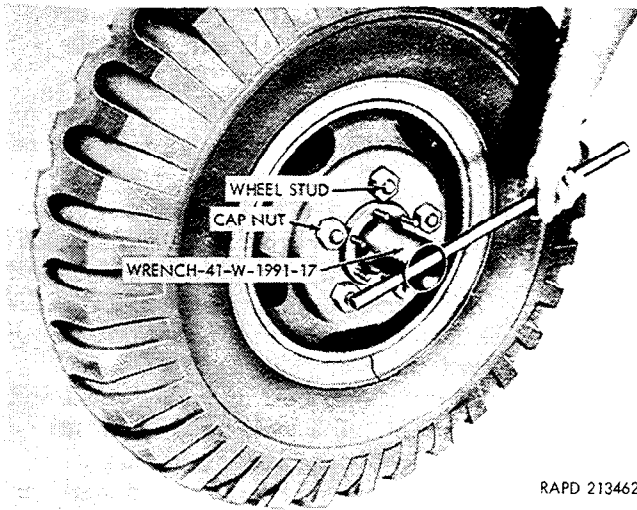
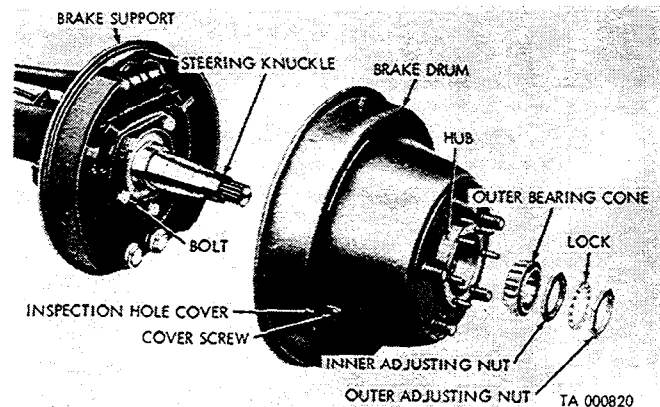

Figure 2-135. Adjusting wheel bearings.
Figure 2-137. Front wheel hub and drum and related parts—exploded view.
(1) Remove the hub bearing outer adjusting nut, using the wrench (fig. 2-135).
(3) Remove the hub bearing inner adjusting nut, using the wrench (fig. 2-135).
(4) Pull the hub and brake drum part way off the steering knuckle to free the outer bearing cone, remove the cone, the hub, and brake drum (fig. 2-137).
(2) Remove the five bolts and lockwashers that secure the brake support and steering knuckle to the steering knuckle flange. Remove the brake support (fig. 2-137).
(1) Apply a coating of automotive and artillery lubricating grease to the parts and inside the bearing flange.
(2) Fit the male half of the universal drive joint on the inner shaft and insert the shaft into the axle housing, engaging the splined end of the shaft in the differential gear.
(3) Fit the female half of the universal drive joint on the outer shaft and insert the shaft through the steering knuckle. Engage the female half of the universal drive joint with the male half, and position the steering knuckle on the knuckle flange (flat side up), aligning the bolt holes. Tap the steering knuckle into place with a plastic hammer.
(4) Position the brake support over the steering knuckle (fig. 2-137), aligning the bolt holes in the support with those in the knuckle and flange. Install five lockwashers and bolts. Tighten the bolts to 80-85 foot-pounds torque.
(5) Clean the contacting surfaces of the brake line inlet connection and the wheel cylinder, and position the connection on the cylinder. Install the bolt gasket and the bolt. Tighten the bolt.
b. *Install Hub and Drum (Fig. 2-137).*
(1) Apply a light film of grease to the inside of the hub and the steering knuckle to prevent rust.
(2) Install the assembled hub and brake drum on the steering knuckle.
(3) Lubricate the outer bearing cone with automotive and artillery grease, using a roller bearing lubricator or kneading the grease into the bearing with the fingers. Do not over-lubricate. Install the cone on the steering knuckle, and install the inner bearing adjusting nut with the lock pin toward the outside. Screw the nut on the steering knuckle, using the wrench (fig. 2-135), but do not tighten.
(4) Install the wheel and tire (para 2-142b).
(5) Adjust the hub bearings (para 2-141).